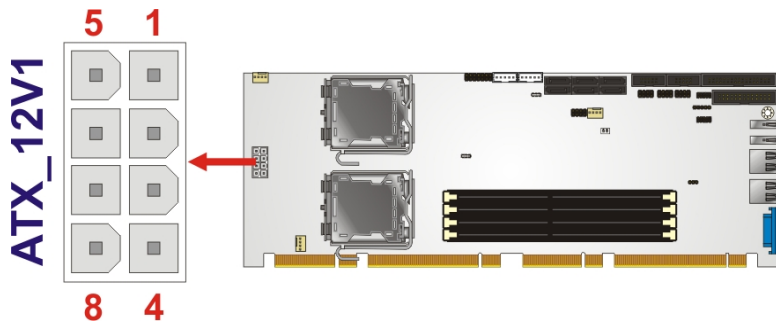

Figure 3-5: CPU 12V Power Connector Location
- CN Location:** See Figure 3-5